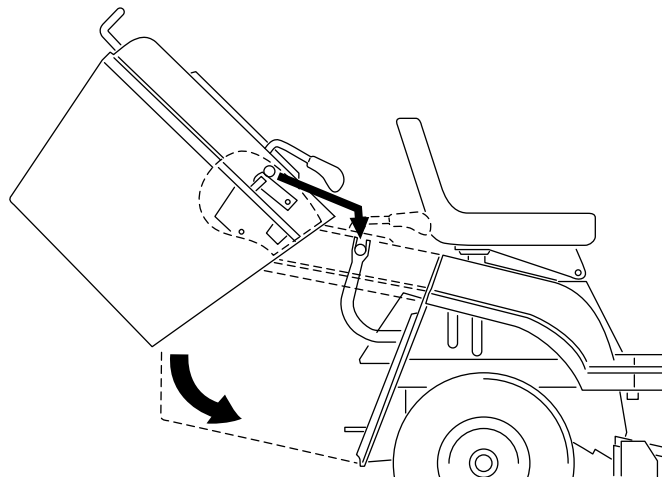

Figure 38
1. Use 2 hands to tip the grass collector forward (Figure 38).
2. Tip the collector forward approximately 40 degrees and slide it onto the 2 support brackets at the rear of the machine (Figure 38).